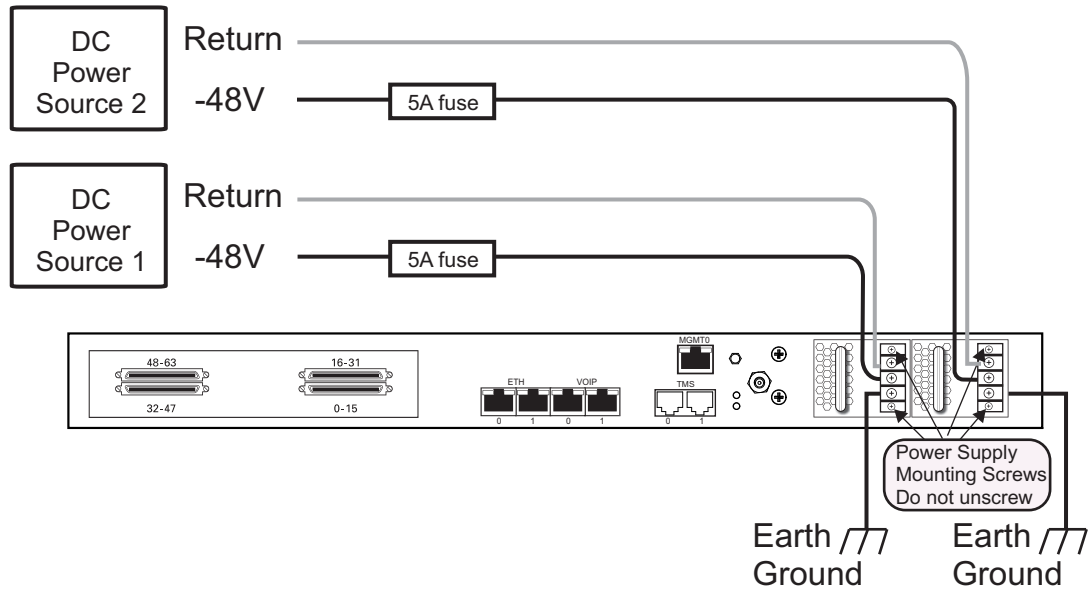

Figure 4.14 DC Power Connection
1. Connect one wire from the positive terminal of the 7800 series gateway to the return side of DC power source one, as shown in figure 4.14 on page 43.